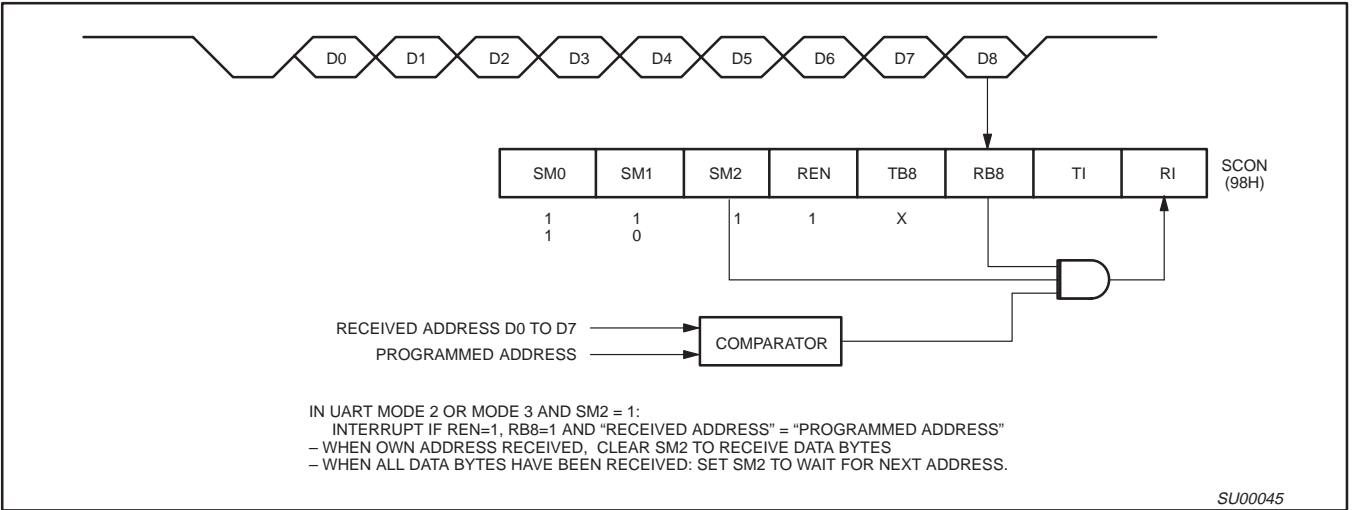

Figure 9. UART Multiprocessor Communication, Automatic Address Recognition
Automatic Address Recognition is a feature which allows the UART to recognize certain addresses in the serial bit stream by using hardware to make the comparisons. This feature saves a great deal of software overhead by eliminating the need for the software to examine every serial address which passes by the serial port. This feature is enabled by setting the SM2 bit in SCON. In the 9 bit UART modes, mode 2 and mode 3, the Receive Interrupt flag (RI) will be automatically set when the received byte contains either the "Given" address or the "Broadcast" address. The 9-bit mode requires that the 9th information bit is a 1 to indicate that the received information is an address and not data. Automatic address recognition is shown in Figure 9.